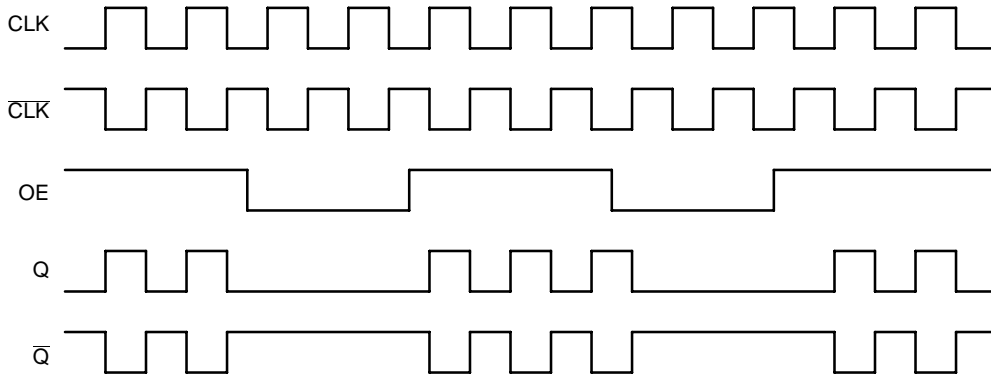

Figure 7. Output Enable (OE) Timing Diagram
8. OE Set Up Time is defined with respect to the rising edge of the clock. OE High-to-Low transition ensures outputs remain disabled during the next clock cycle. OE Low-to-High transition enables normal operation of the next input clock (See Figure 7).